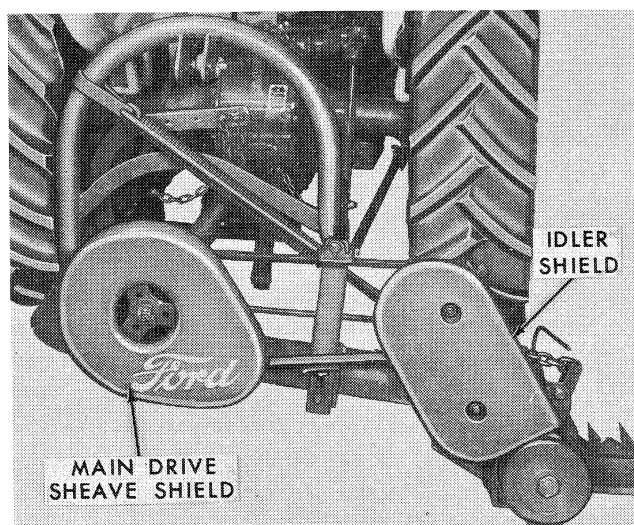

Figure 38
24. Install the idler shield, Figure 38, on the idler sheave attaching bolts and secure with the two 5/8" nuts (provided in the bag of hardware).
27. Install the main drive sheave shield, Figure 38, with the three 7/16" – 14 x 1" hex head bolts,